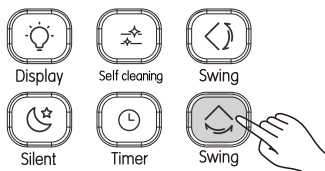

Figure 3.12
① When the unit is on. Press  (see Figure 3.12). Start the horizontal swing function, and  will light up, and signal is sent to the indoor unit;